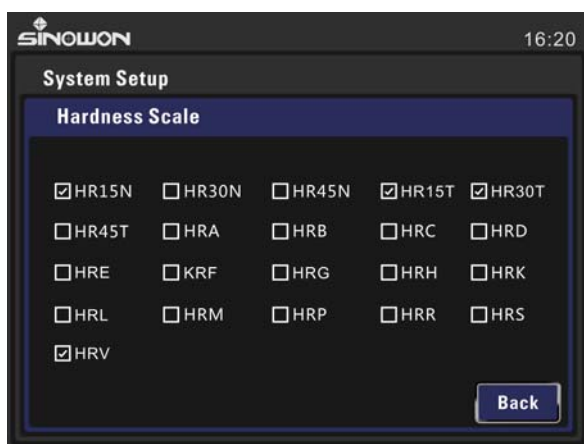

Fig 5-2 Hardness Conversion
- Rockwell Scales setup: See Fig 5-2, and click the small box in front of each scale, total 21 rockwell scales: HR15N, HR30N, HR45N, HE15T, HR30T, HR45T, HRA, HRB, HRC, HRD, HRE, HRF, HRG, HRH, HRK, HRL, HRM, HRP, HRR, HRS, HRV.
- 1) Select scale, then press ENT display dialog box, select HRC, and standard ASTM (Fig5-2) .